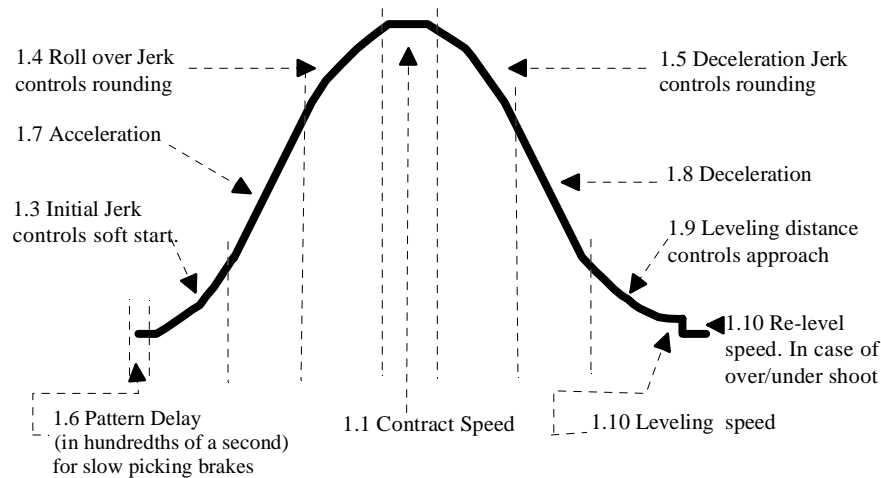

FIGURE I.5.1
The speed profile drawing, Figure I.5.1 below, provides information, at a glance, of the parameters involved for the adjustment of the elevator ride. Please use as reference.
I.5.2. Make a series of test runs: up one floor, then down one floor; then a multiple floor run up, then down. At every run adjust, as necessary, any of the speed curve parameters depicted on figure I.5.1 below. Refer to SDI's manual drawing "SDI SUBMENU 1", at end of SDI manual, for quick reference about "navigating" through program variables, submenu 1. If car vibrates, check encoder mounting and wiring, if correct, reduce Speed Gain adjustments, parameter P601. As soon as the car is able to run at top speed, perform step I.5.3 below, and then repeat this step as necessary.